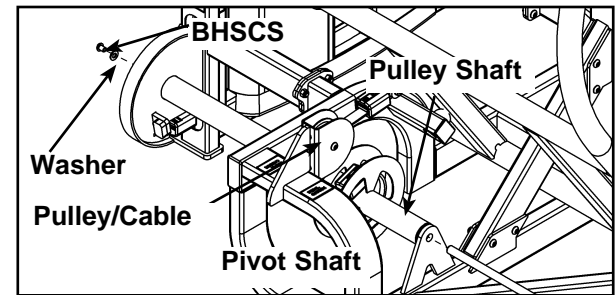

Figure 3
F. Remove pulley then remove other end of belt from cam. See Figure 3.
G. Remove one of the two BHSCS (Button Head Socket Cap Screws) securing the pivot shaft. See Figure 3.
H. Carefully remove pivot shaft and pulley shaft. See Figure 3. **NOTE:** Be extremely careful when removing shaft so you don't ruin the threads on the shaft.
L. Carefully attach pulley shaft using the pivot shaft and BHSCS removed in steps 4G and 4H. See Figure 3.